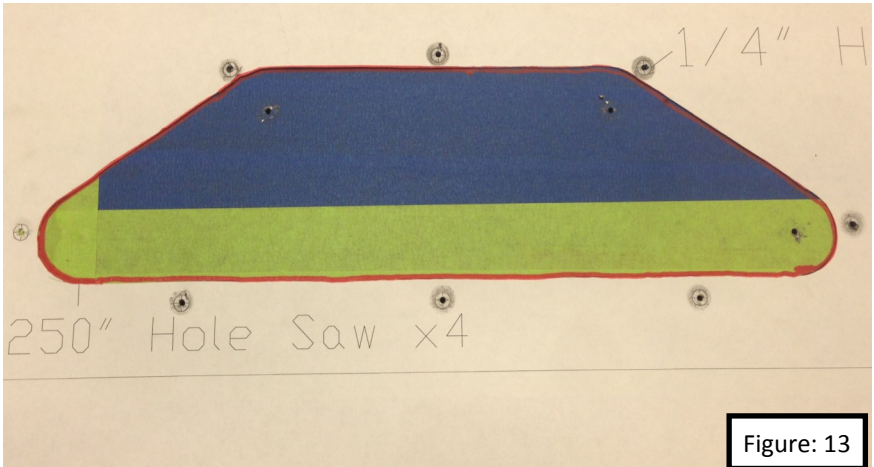

Figure: 13
17. Trace the shape of the center hood vent hole that will be cut into the hood. Figure: 13